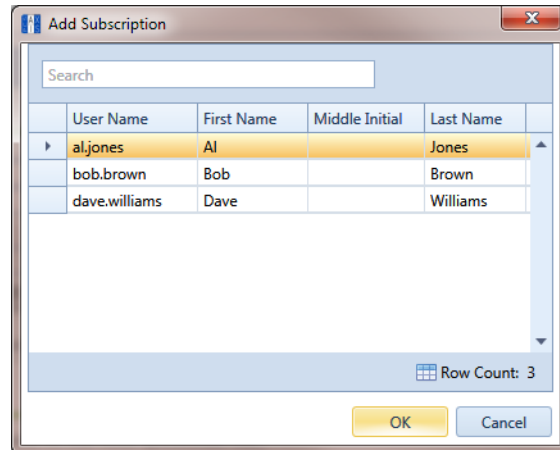

Figure 17-5. Add Subscription
- 2 Click  **Add** to open the *Add Subscription* dialog box (Figure 17-5, page 782).